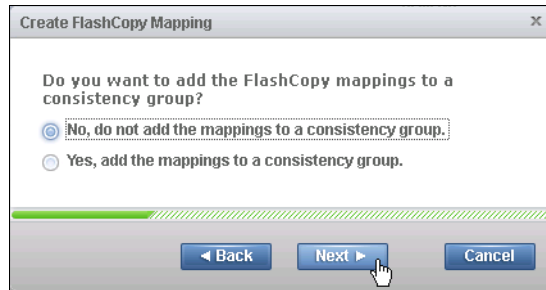

Figure 11-19 Add FlashCopy mapping to a consistency group
3. You can add your FlashCopy mapping to a consistency group (Figure 11-19 on page 346). If the consistency group is not ready, the FlashCopy mapping can be added to the consistency group after. Click **Next** to continue.